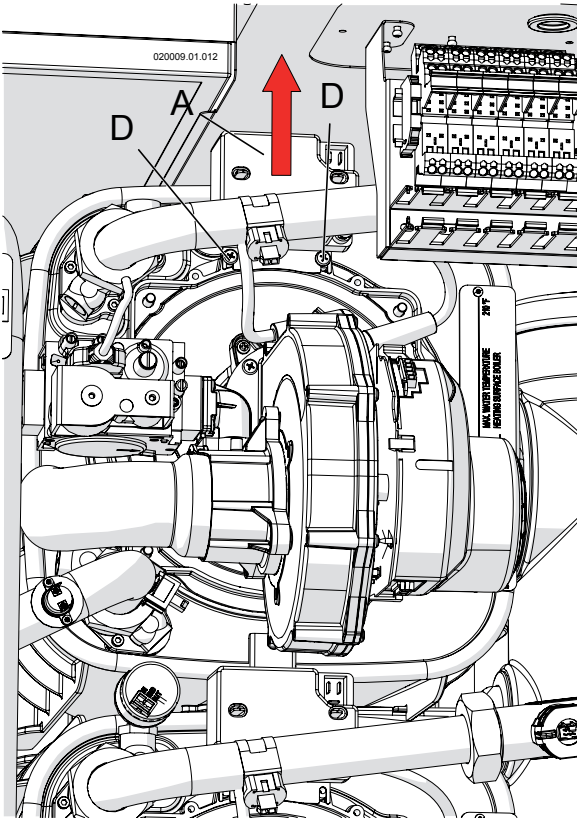

Figure 17-3 Remove the spark generator
3. loosen screws "D" (Figure 17-3) and move up the spark generator "A" (Figure 17-3);